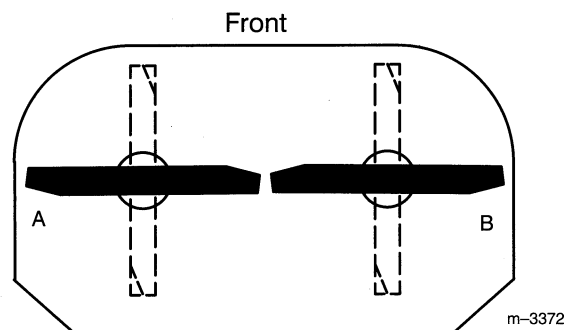
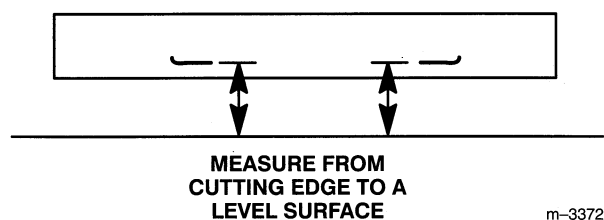

Figure 29
Figure 30
2. Position the blades side-to-side (Fig. 29). Measure at "A" and "B" locations (Fig. 29) from a level surface to the cutting edge of blades (Fig. 30).